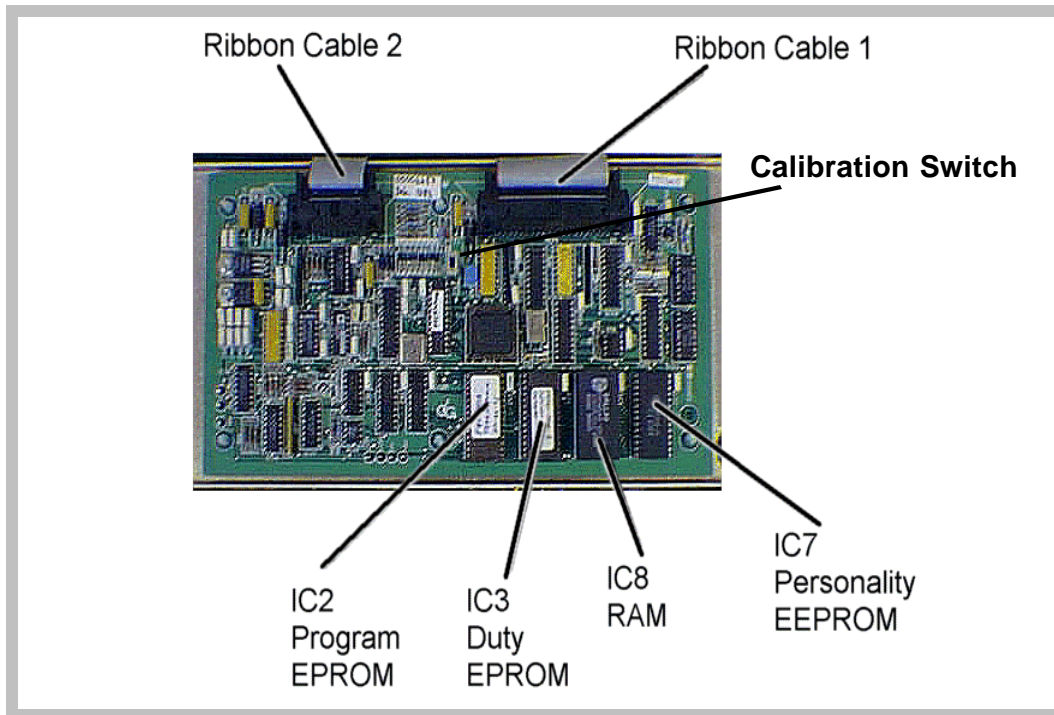

FIGURE 4.6 THE MAIN COMPUTER BOARD
The computer Unit contains three replaceable computer chips identified below and illustrated in Figure 4.6 on the next page. For any computer chip replacement, follow directions in Computer Chip Removal and Installation, page 46.
2. Refer to Figure 4.6 above. Remove chip from Computer Board with a chip removal tool.